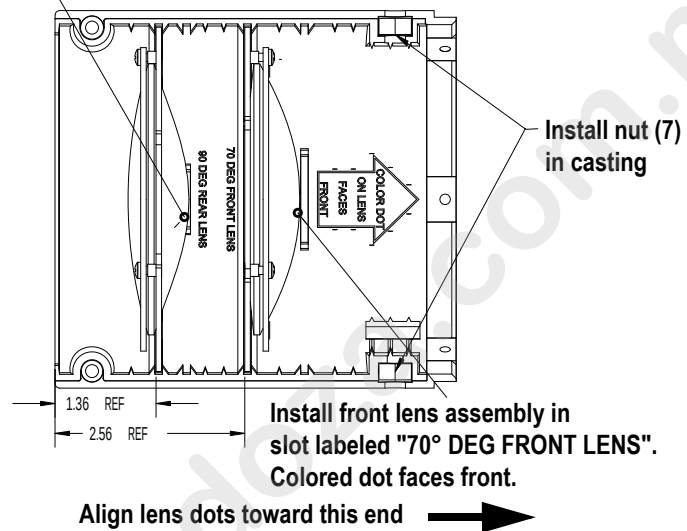

Figure 24
- Step 1: See Figure 24. Place rear lens (1) into mounting plate (2) with paint dots facing forward. Center the lens in the mounting plate and secure with the retaining ring (3) and screws (6). Lightly tighten all three screws while maintaining lens position, then tighten screws securely.
- Step 2: See Figure 24. Place front lens (4) into mounting plate (5) with paint dots facing forward. Center the lens in the mounting plate and secure with the retaining ring (3) and screws (6). Lightly tighten all three screws while maintaining lens position, then tighten screws securely.